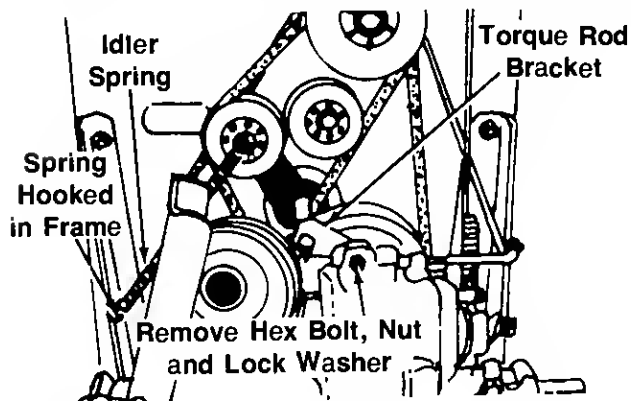

FIGURE 28.
5. Unhook the idler spring from the rider frame. See figure 28.
6. Remove the hex bolt, nut and lock washer at the torque rod bracket and transaxle. See figure 28.